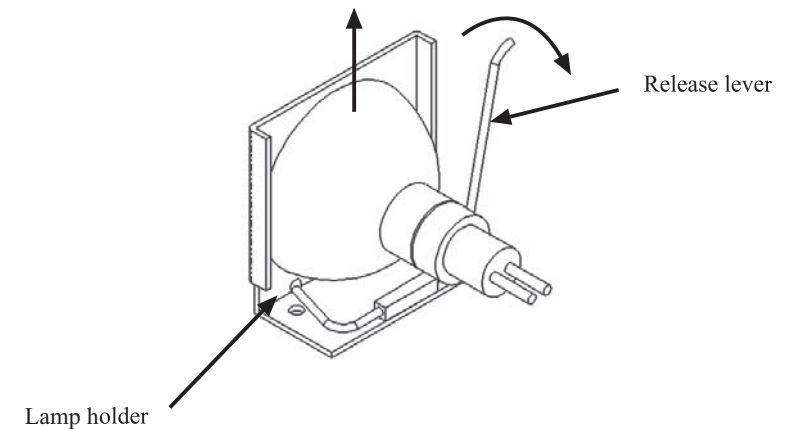

Figure 11. Lamp release
- d. Press the lamp release lever beside the lamp backward to release the lamp from the holder as shown in Figure 11.